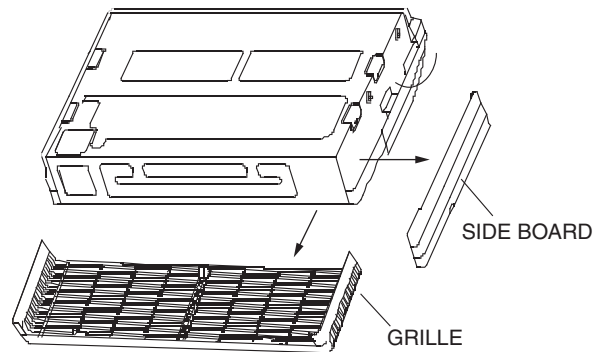

Fig. 8 — Removing Side Board and Grille
3. Remove the side board and grille from the unit as shown in Fig. 8 (does not apply to unit size 048).